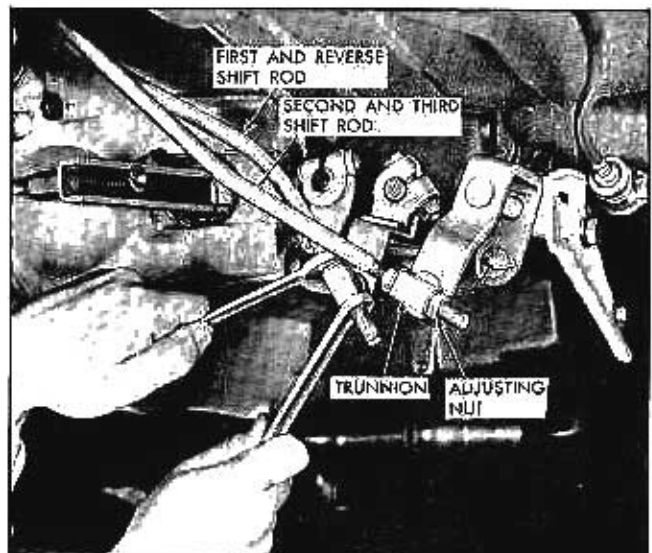

Fig. 7-10 Adjusting Shift Rod Trunnions.
4. Attach 2nd and 3rd and first and reverse shift rods to shift levers at transmission and, with transmission levers in full neutral detent, adjust 2nd and 3rd shifter rod trunnion at idler lever and first and reverse trunnion at transmission lever (Fig. 7-10). Tighten trunnion lock nuts to 60-120 lb. in. torque.